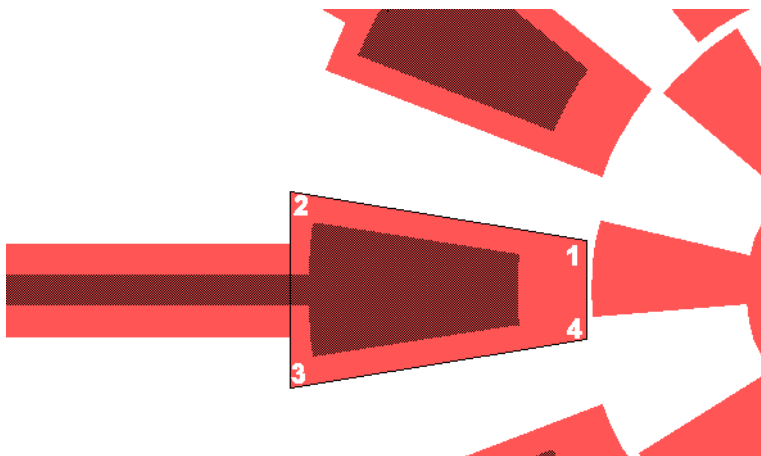

Figure 34: Creating the all angle polygon
- ☒ Select the **Window Zoom** tool to arrange the view in such a way that the left-most stator is visible (Figure 34).
- ☑ Left-click the first numbered vertex to begin drawing the polygon. Left-click the second and the third vertices, then complete the polygon by right-clicking the fourth numbered vertex (Figure 34).